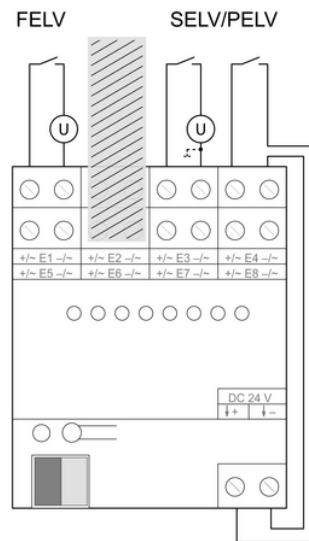

Figure 5
- Leave two inputs unused (figure 5) between the inputs wired with SELV/PELV and FELV circuits.